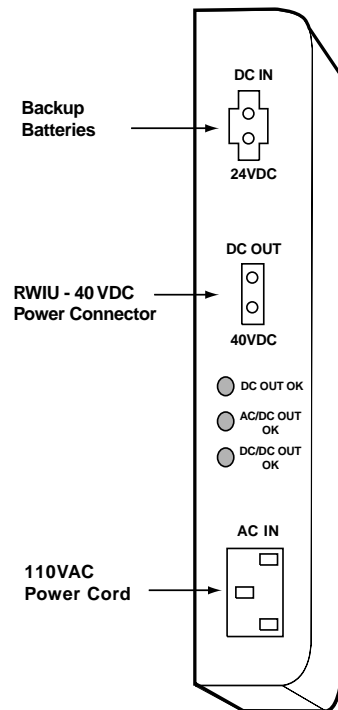

Figure 16-27 RWIU Power Supply
1. Use the external power supply (see Figure 16-27) to increase the amps for each Base Station.